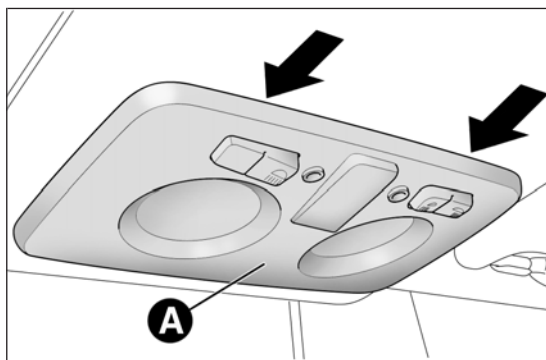
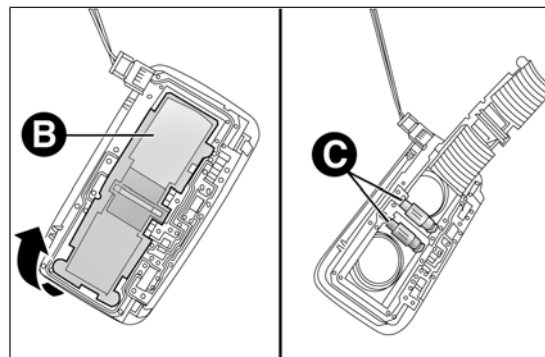

fig. 150
fig. 151
- remove the roof light A fig. 150 working at the points indicated by the arrows;
- open the flap B fig. 151 and replace the bulbs C releasing them from the side contacts. Make sure that the new bulbs are correctly secured between the contacts;
- reclose the flap B fig. 151 and fix the roof light A fig. 150 in its housing making sure that it is locked.